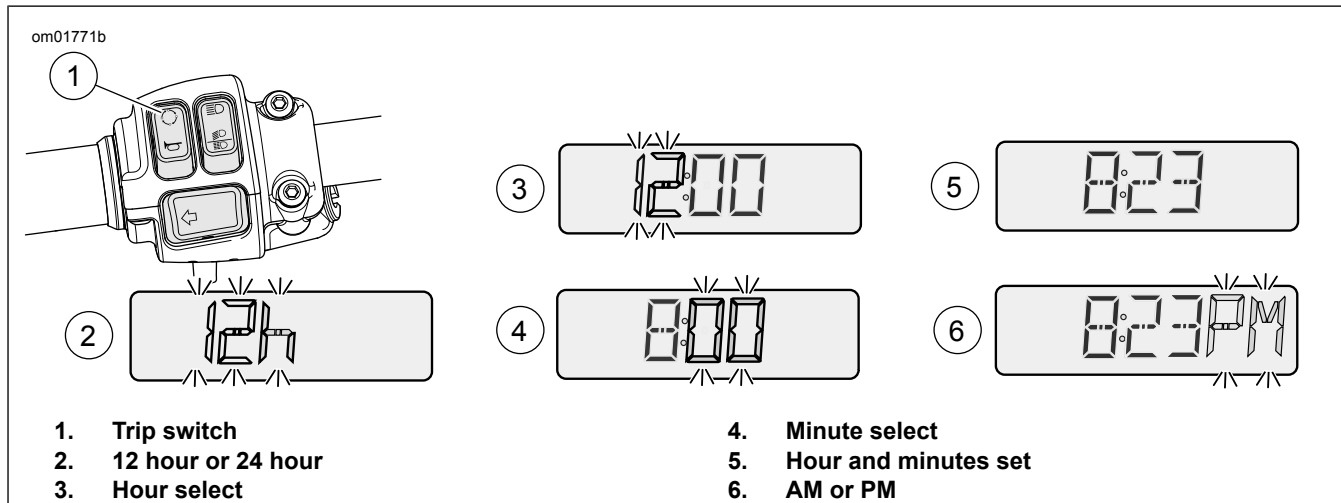

Figure 31. Time Displays
1. See Figure 31. Press and release the TRIP switch (1) until time (hour and minutes) is displayed. Press and hold the TRIP switch until 12h (2) begins to blink in the speedometer display window. Release the switch.
3. When the desired time style is displayed, press and hold the TRIP switch until the hours display (3) is blinking.
5. When the correct hour is displayed, press and hold the TRIP switch until the minutes display (4) starts blinking.
7. When the correct minutes are displayed (5), press and hold the TRIP switch until the display advances to AM or PM (6).